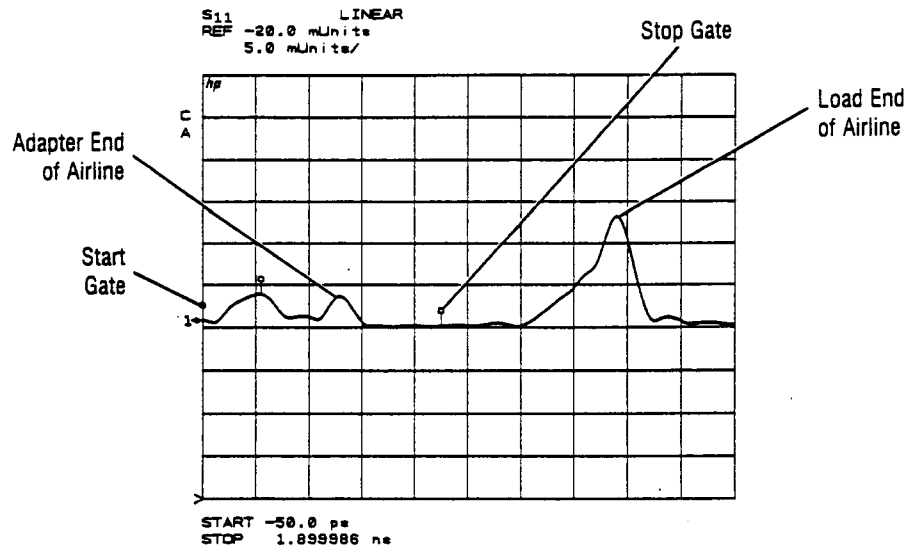

Figure 3. Location of Gates and Airline
10. Using the RPG, adjust the stop gate to the center of the airline (see *Figure 3*).